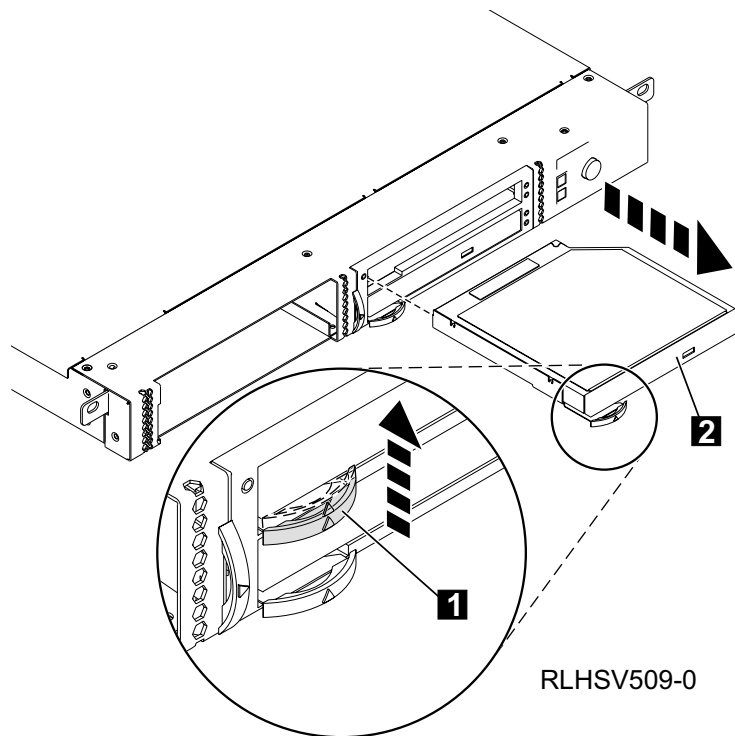

Figure 4. Removing a DVD Drive
2. Push the latch (see **1** in Figure 4) up toward the DVD Drive.